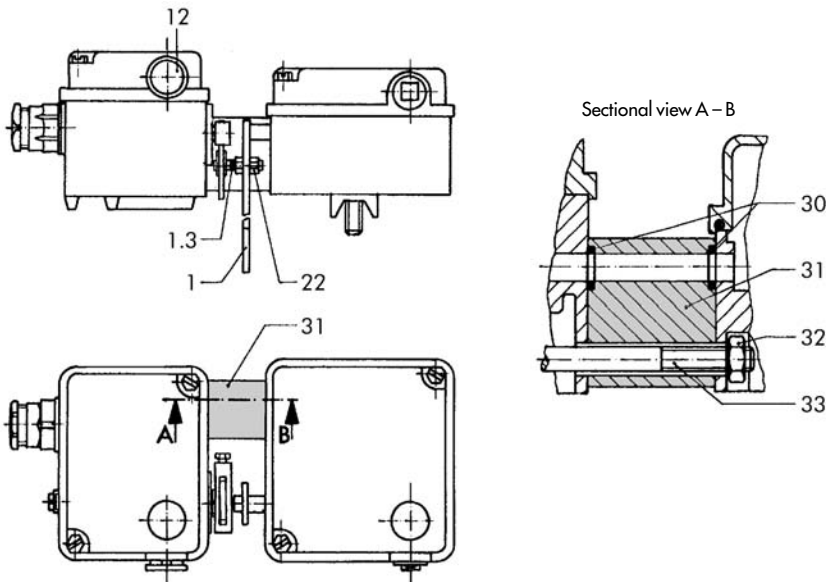

Fig. 5 · Attachment with intermediate piece to e.g. a Type 765 Positioner
Lever for positioner attachment (including intermediate piece, pos. 31 acc. to Fig. 5):